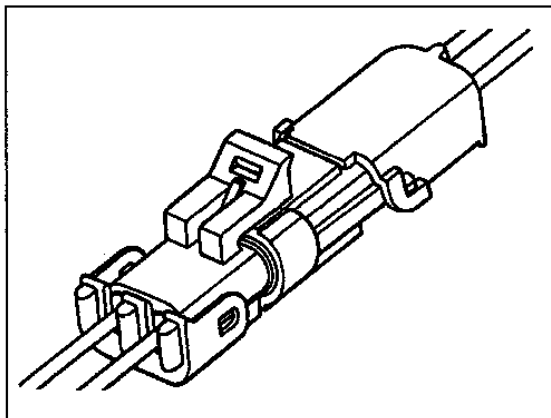

Figure 49 Mate Connector Halves
7. Close and latch secondary lock on connector body, and mate the connector halves (Figure 49).